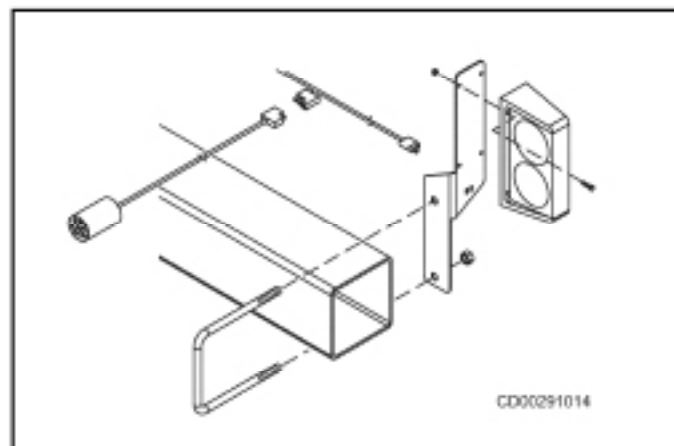

Figure 13 Installing Lights
1. Rigid Bar (TRR): Install light brackets to ends of toolbar, using U-bolts and nuts as shown in Figure 13.